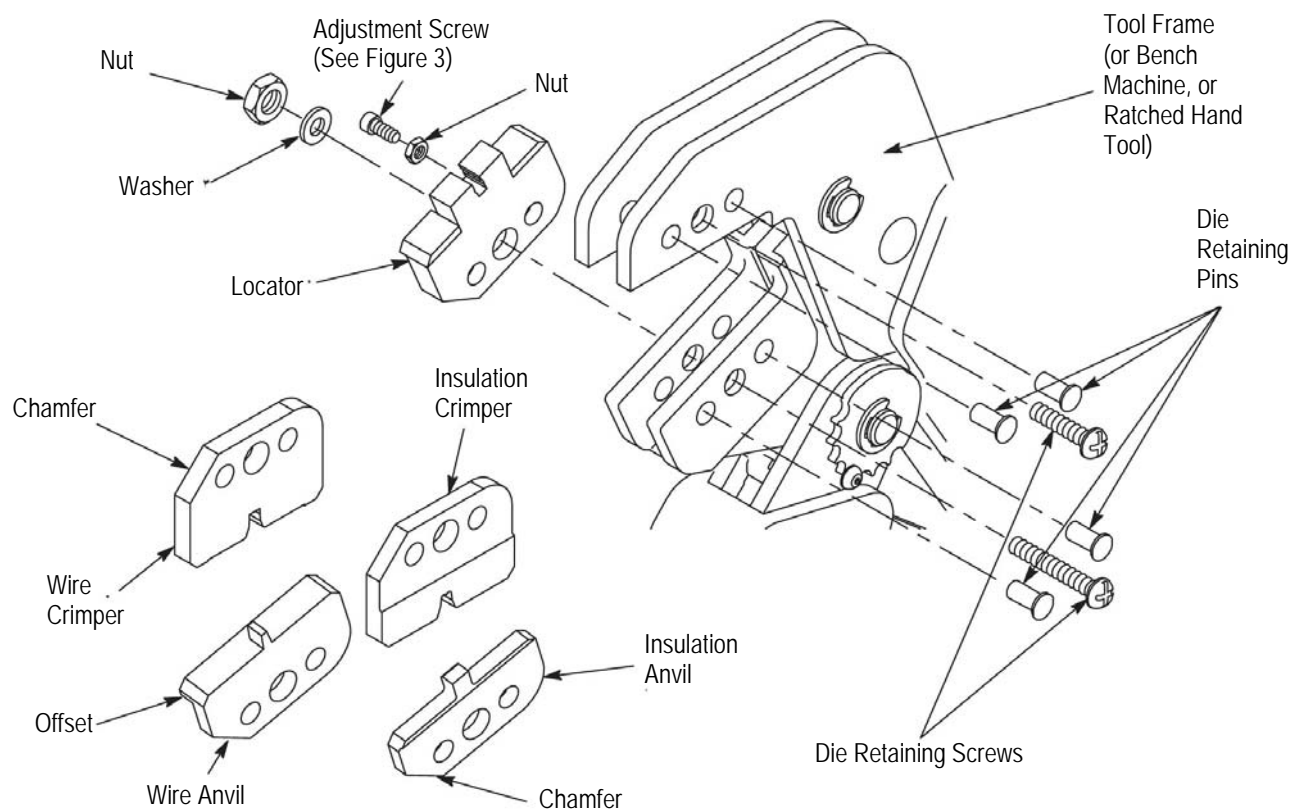

Figure 2
## 2. DESCRIPTION (See Figure 1 and Figure 2.)
### 3. INSTALLATION AND REMOVAL OF DIE SET AND LOCATOR ASSEMBLY (Figure 2)
- Added new information to bottom of Figure 1 table and callout in Figure 2